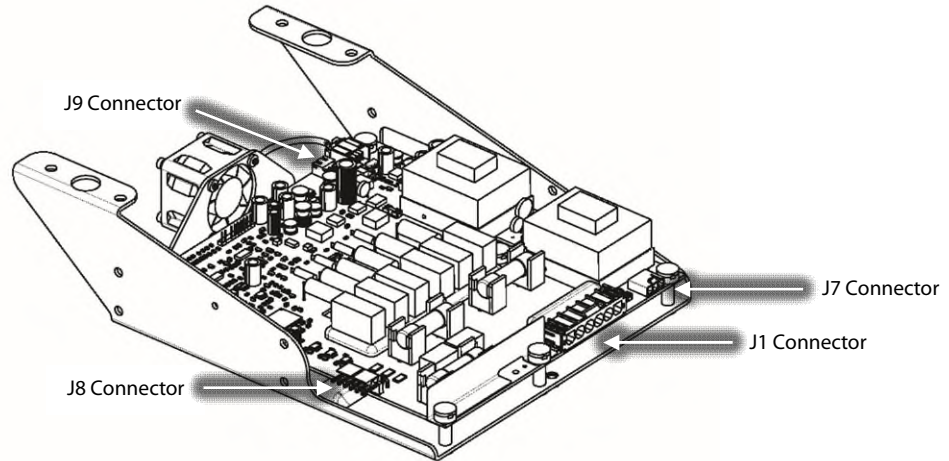

Figure 5 – Closed-Top Soft Start
3. Disconnect the J9 connection from Soft Start if equipped. Refer to Figure 5 – Closed-Top Soft Start.
5. Flip Soft Start over (board side up) and disconnect J1, J7, and J8 from the Soft Start. Refer to Figure 5 – Closed-Top Soft Start.